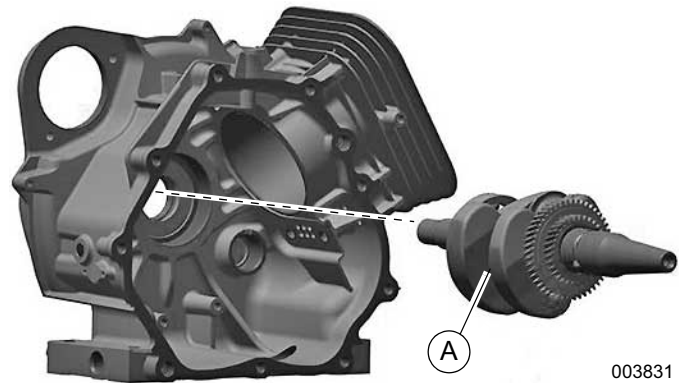

Figure 14-8. Install Crankshaft
1. See Figure 14-8. Apply assembly lube to entire surface of crankshaft connecting rod journal (A).
1. See Figure 14-8. Remove one piston pin retainer clip (A) and piston pin (B). Set aside for future use.